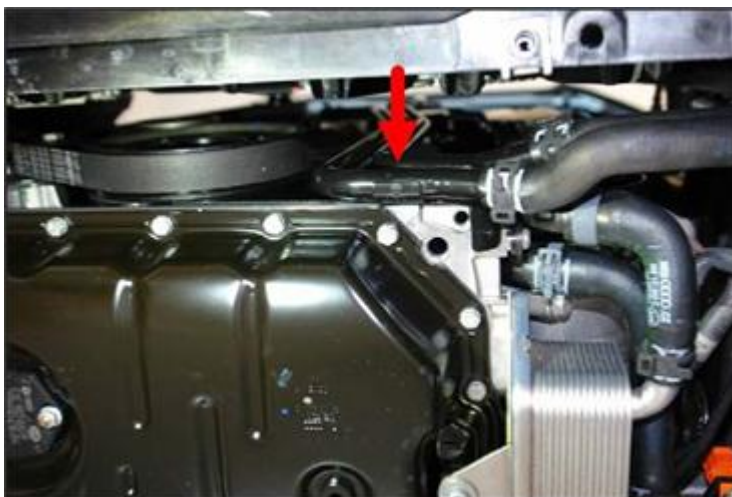

Figure 5. Screw to be removed from coolant line and upper section of oil pan (arrow)
2. Remove the screw (Figure 5, arrow) from the coolant line and upper section of oil pan. This will allow the coolant lines to be moved out of the way when removing the sensor.